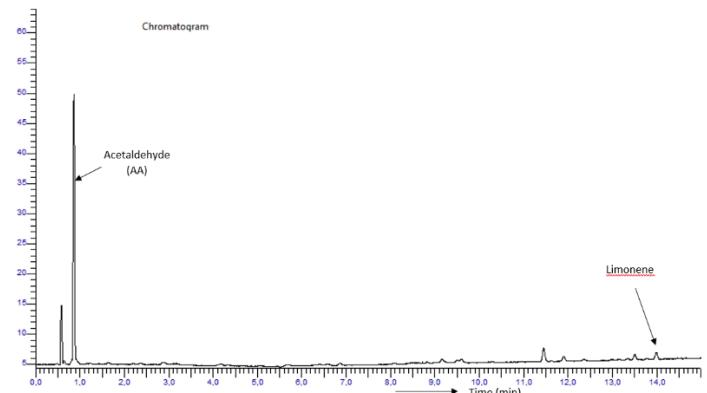

Figure 3. Headspace GC graph for Acetaldehyde (AA) & limonene; measured by EMMTEC.
Limonene is a common dietary supplement and fragrance ingredient for cosmetic products [4]. It is also applied as a solvent for cleaning purposes, such as for the removal of adhesives or oil removal from machine parts [6]. When carbonated soft drinks or orange juices containing limonene are stored in PET bottles, limonene can migrate into the PET packaging. In a European rPET screening study [5], a maximum concentration of about 20 parts per million (ppm) of limonene was found in conventionally recycled PET. And 98% of all examined rPET flake samples showed a limonene concentration of below 10 ppm. The average value of limonene in conventionally recycled PET flakes was determined to be 2.9 ppm = 2,900 parts per billion (ppb) [5]. Figure 3 shows a graph in which the limonene concentration in PET was detected by means of Headspace Gas Chromatography (GC) analysis.
Acetaldehyde is a colourless, volatile substance with a fruity odour. It is naturally formed in coffee, bread and some fruits. In human bodies, it is also produced by the partial oxidation of ethanol by the liver enzyme alcohol dehydrogenase and is a contributing cause of hangovers after alcohol consumption [6]. Figures 3 and 5 show two graphs in which the acetaldehyde concentration in PET is detected by means of Headspace GC analysis. Typical acetaldehyde concentrations measured by EMMTEC in rPET are in the range of 0.05 mg/kg = 50ppb.